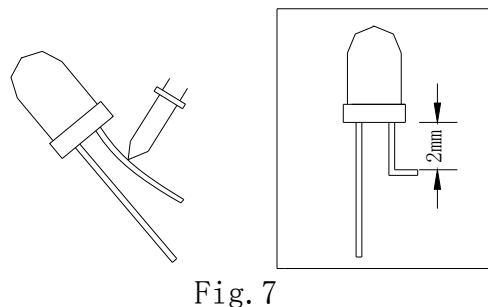

Fig. 7
- 1) The lead should be bent at least 2mm away from the package. Bending should be performed with base fixed to a jig or pliers (Fig.7)